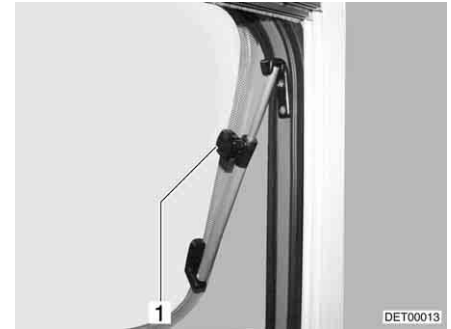

Fig. 76 Hinged window with rotary hinges, open
- Open the hinged window until the required position has been reached and use knurled knob (Fig. 76,1) to secure in position.
- Turn knurled knob (Fig. 76,1) until the latch is released.